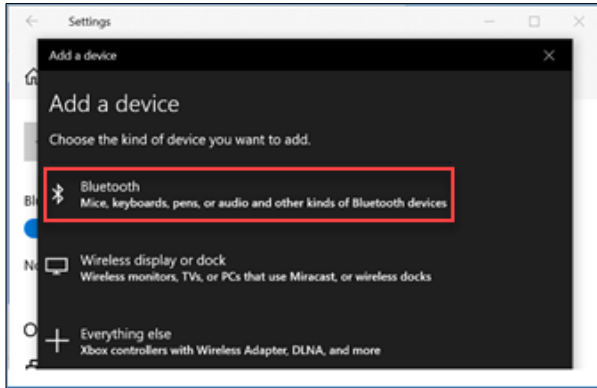

Figure 7: BT & other devices
The *Add a device* pop-up window displays (see **Figure 7**).
7. Select **Bluetooth** (see **Figure 7**).